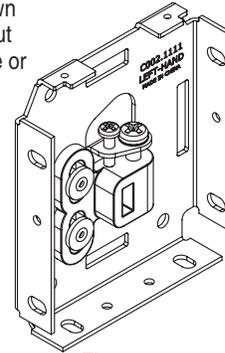

Figure 9
- ⑭ Slide both ends of the draw cable close to the attachment stud flat washers, then, raise the shade to its fully closed position and insure that the hem-bar is centered in the window. The position may be adjusted by sliding one or both of the draw cable attachment studs to the left or right.
⑮ Lower the shade to its fully retracted position and observe the tracking on the fabric roller. Adjust the tracking by loosening the smaller screw, then, raising or lowering the fabric roller with the larger screw, as needed (see Fig. 9).